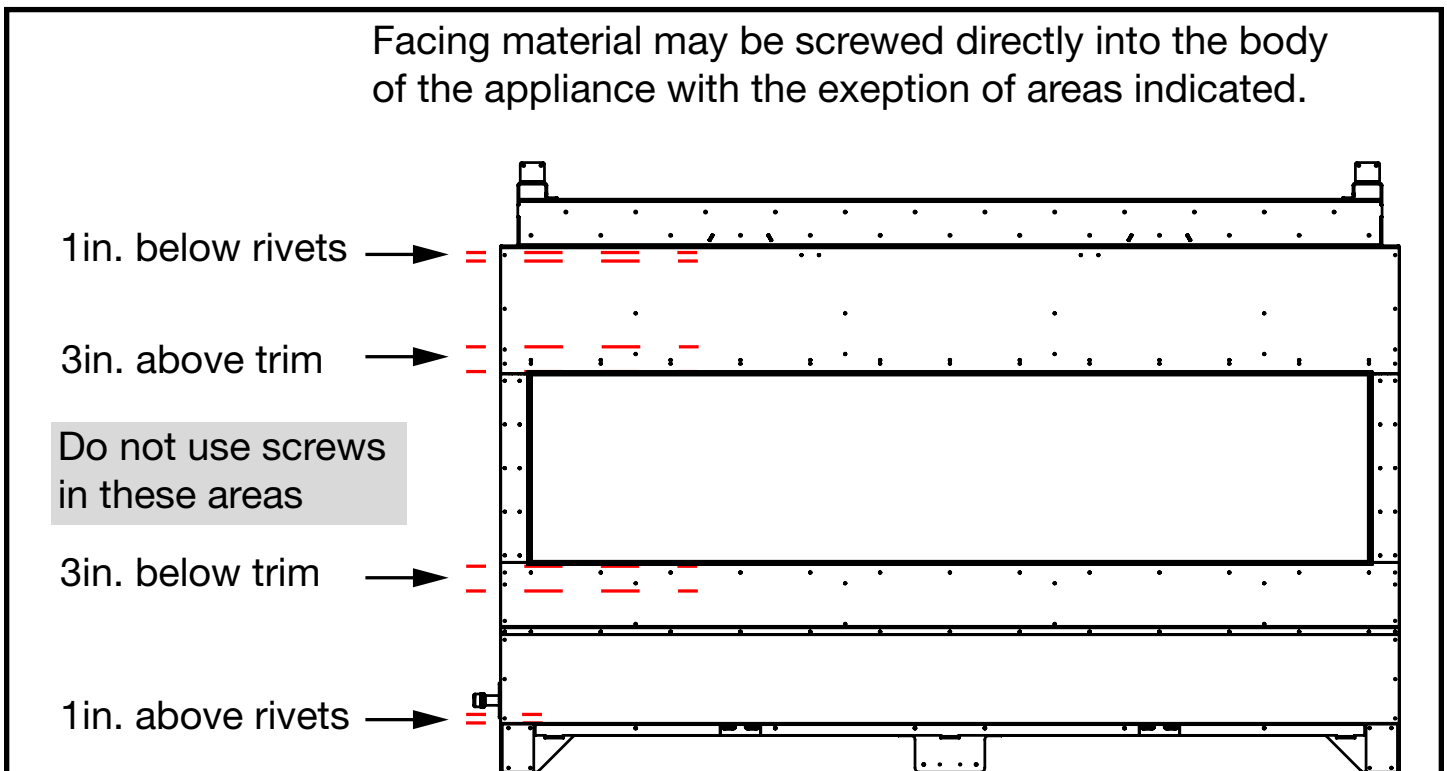

Figure 6: Facing attachment area.
2. Facing material can be attached directly to the front and side of the unit except in the areas indicated in Figure 6.